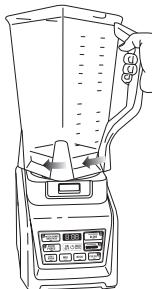

Fig. 2
- 4 Rotate the pitcher clockwise until it clicks in place. As the pitcher rotates, it will lower and the safety tabs on the bottom of the pitcher will slide under the safety tabs on the top of the motor base. **(Fig. 2)**